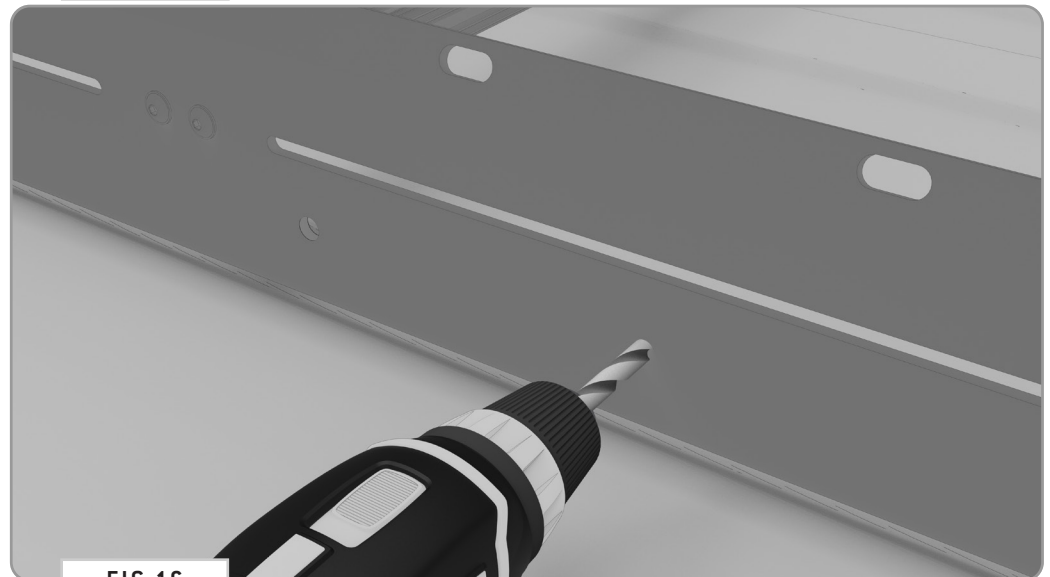

FIG 16
**5.2a Drill Holes:** Remove the **Surf Pole** from the **Hangar Bracket** and drill out the holes using a **25/64" Drill Bit** (**FIG 16**).